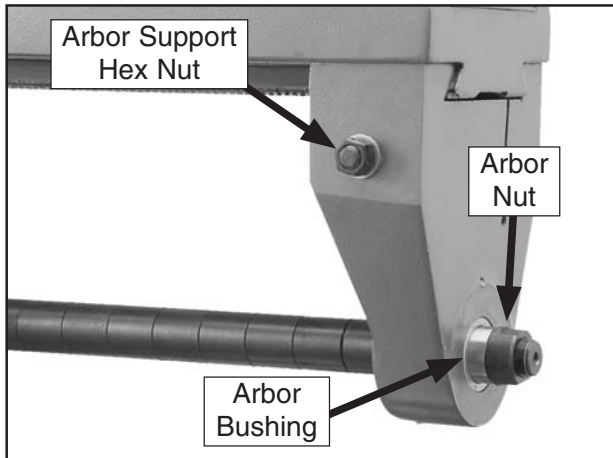

Figure 28. Horizontal arbor installed.
12. With the arbor nut removed, slide the horizontal arbor support onto the ram dovetail way and, at the same time, insert the arbor bushing into the brass housing of the arbor support (see **Figure 28**).